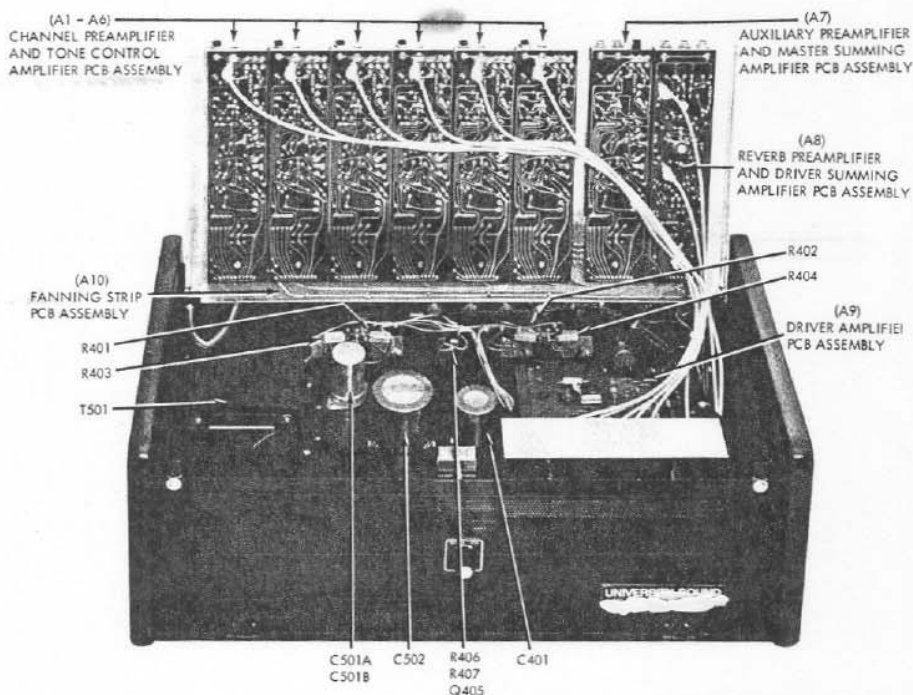

Figure 6. Console Interior
Remove four screws securing rear panel to console, then remove rear panel to expose power transistors at rear of console (see Figure 6).
Open console to gain access to interior (see Figure 6), then remove appropriate PCB in accordance with the following applicable procedures. After PCB removal, install new or repaired PCB by reversing applicable removal procedure; then close top panel and install jack strip with two screws previously removed.
- Step 1. Remove rear panel (see Figure 6).